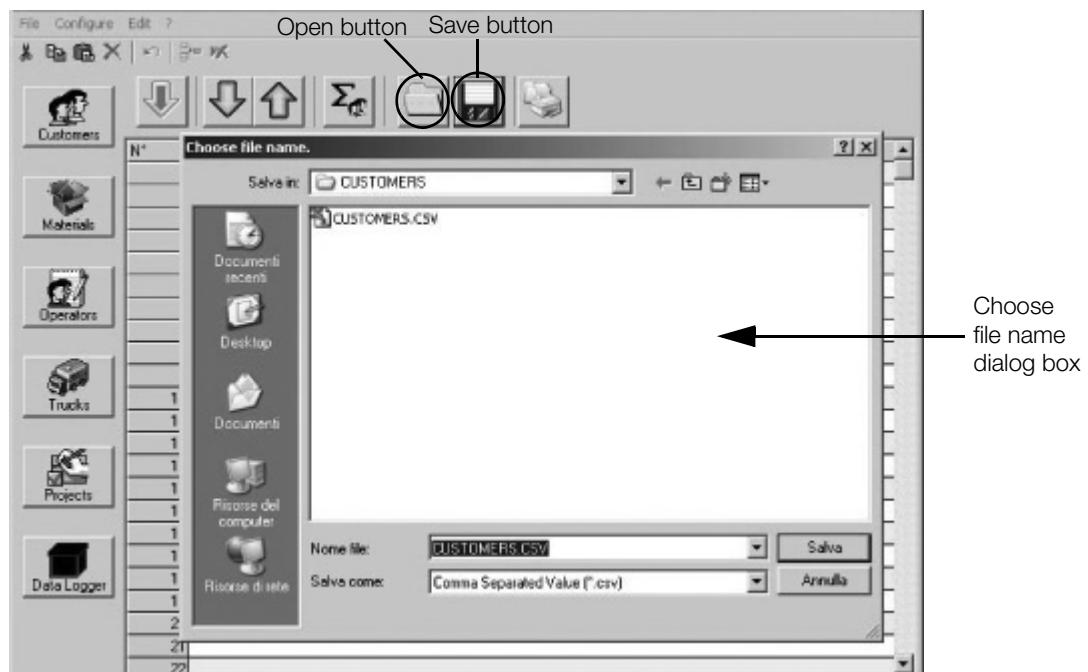

Figure 5-11. Saving a file
2. Click the Open button, shown in Figure 5-11.